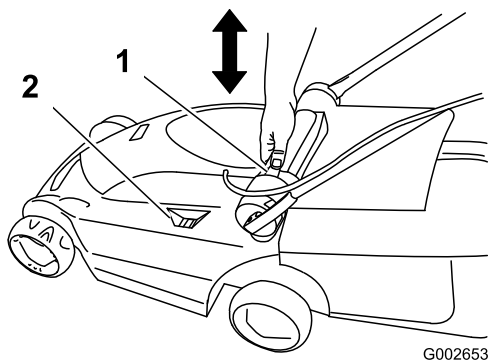

Figure 19
2. Press down on the height-of-cut adjustment button with your thumb and push down or lift up the height-of-cut handle to the desired cutting height setting shown on the height-of-cut level reading (Figure 19).